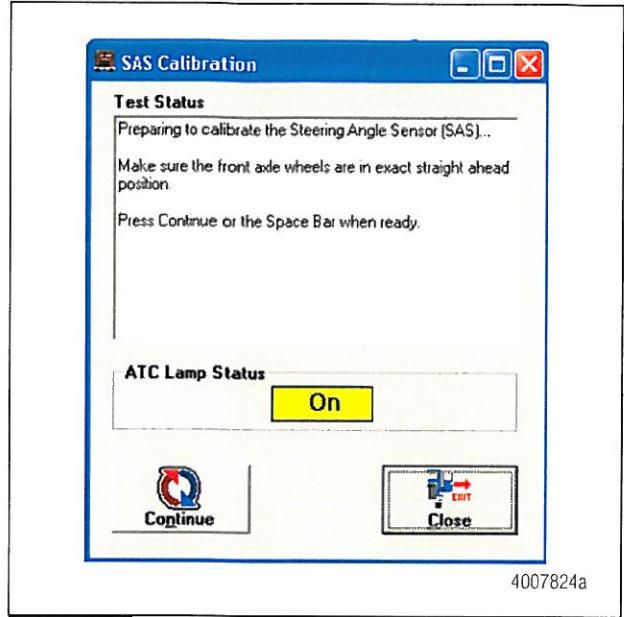

Figure 14
- Follow the instruction in the message box. Figure 14.